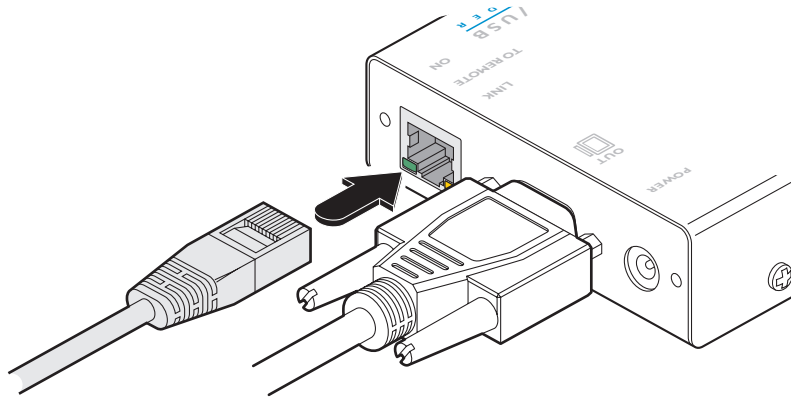

Figure 3-10. Attaching the CATx link cable
- 1 Connect the link cable (up to 984 feet/300 meters in length) to the local module socket labeled **TO REMOTE** as shown in Figure 3-10: